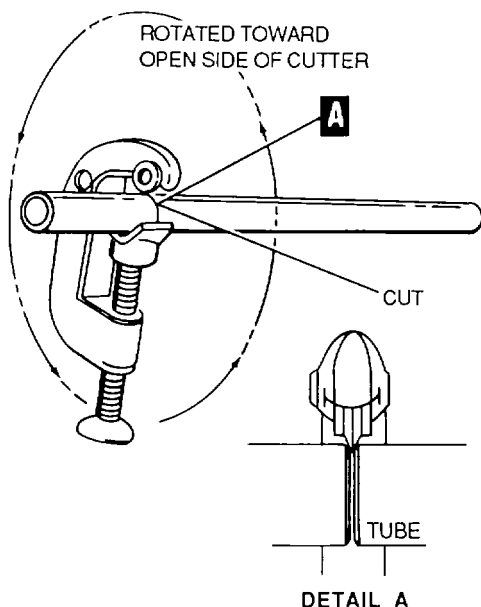

Figure 4-116. Cutting Tube with Tube Cutter
(3) Slightly tighten the adjusting screw and rotate the cutter toward its open side, as shown in figure 4-116.